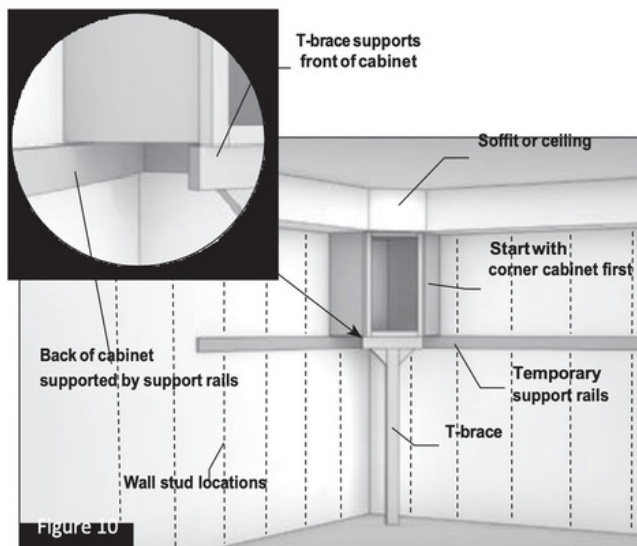

Figure 10
- 3.2** Start with the corner cabinet. With someone else's help, lift it into position on the support rail and use a 2 x 4 or T-brace at the front to prop the cabinet into place. Keep in mind, blind corner cabinets may need to be pulled out from the corner as shown in your kitchen plan. (Figure 10)